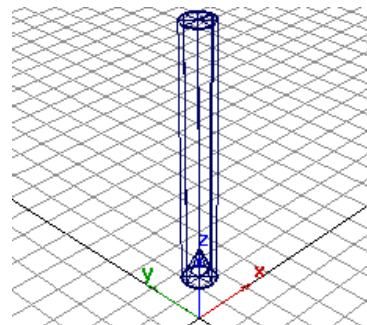

Figure 2-116 Model after creating the tip of the pencil
2. Enter **0, 0, 150** in the promptline and press ENTER; the tip of the pencil is created, as shown in Figure 2-116.